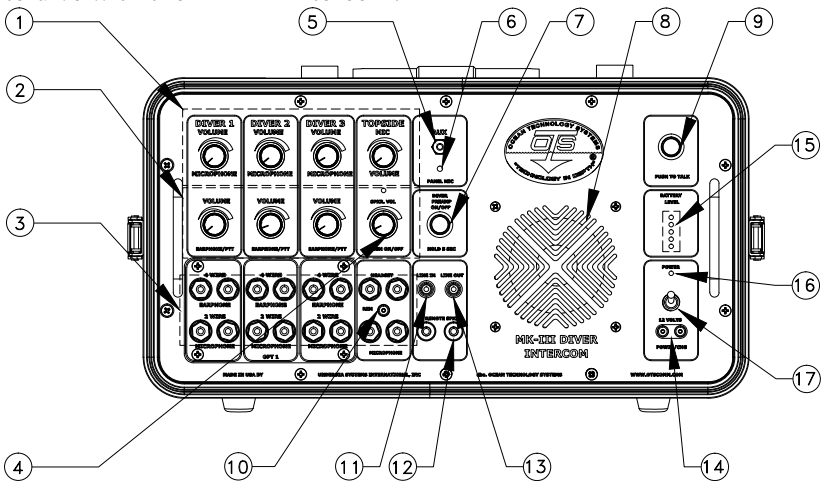

Fig. 1
Figure 1 depicts the MK-III panel. Use the numbered key to familiarize yourself with the locations and functions of each control before attempting to dive with the MK-III Intercom.
To charge the MK-III using AC power, connect the supplied charger/maintainer AC power cable to the Charger/Maintainer input (Fig 1, #14). Connect the Charger/Maintainer power plug to an AC power outlet that supplies 90–240 volts at 50/60 Hz.
1. Ensure the power switch (Fig. 1, #17) is toggled to the *off* position. If the unit is connected to an external power source, unplug the power cable from it.
To operate the MK-III using AC power, connect the supplied charger/maintainer AC power cable to the Charger/Maintainer input (Fig 1, #14). Connect the Charger/Maintainer power plug to an AC power outlet that supplies 90–240 volts at 50/60 Hz.
To operate the MK-III using an external 12-volt DC power source (such as a lead-acid battery of 5.0 Ah or other DC power supply of at least 3A), connect electrical cables via a mini double banana plug to the DC power receptacle (Fig. 1, #14) on the MK-III front panel. Be sure to connect the negative lead to the black socket and the positive to the red.
If the voltage of the external DC power source falls below that of the internal battery, the MK-III will begin to draw current from both power sources. Therefore, the battery level indicator (Fig. 1, #15) will monitor the voltage of both the internal battery and the external DC source.